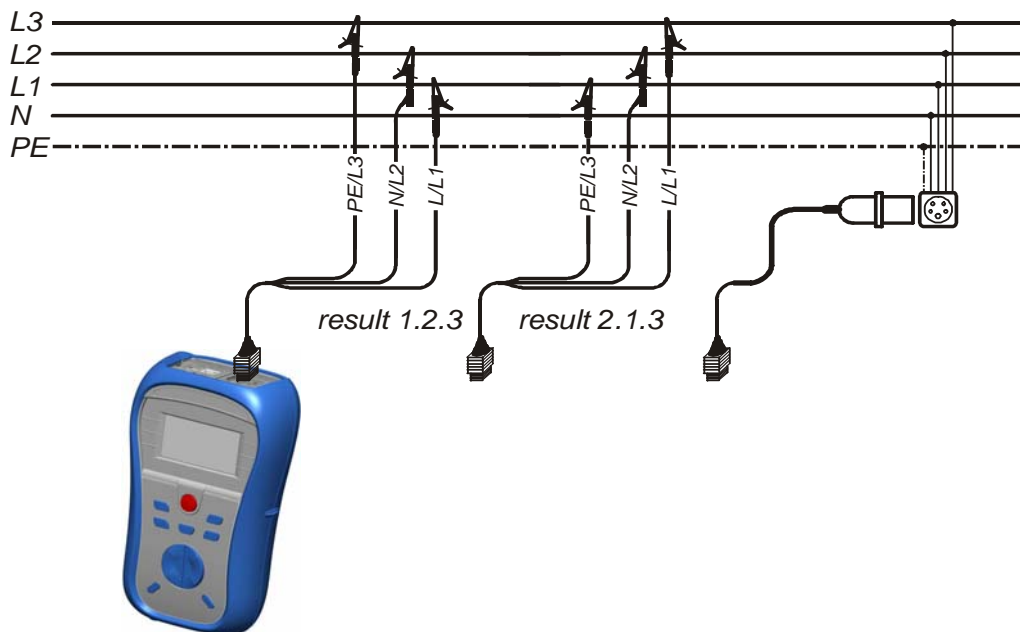

Figure 5.5: Connection of universal test cable and optional adapter in three-phase system
- ❑ **Connect** test leads to the item to be tested (see figures 5.5 and 5.6).